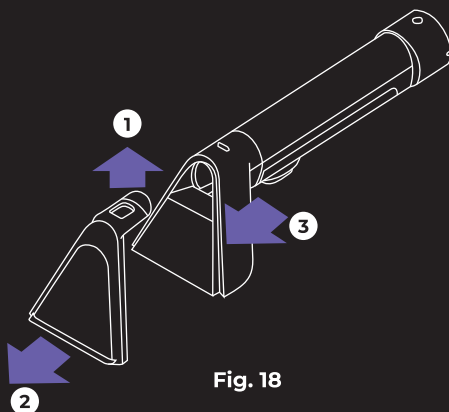

Fig. 18
1. Pull the locking clip gently to remove the cleaning tool cover(fig. 18).
2. Pull the nozzle(3) to remove it from the cleaning tool handle for cleaning or to swap with other attachments (Fig. 18).